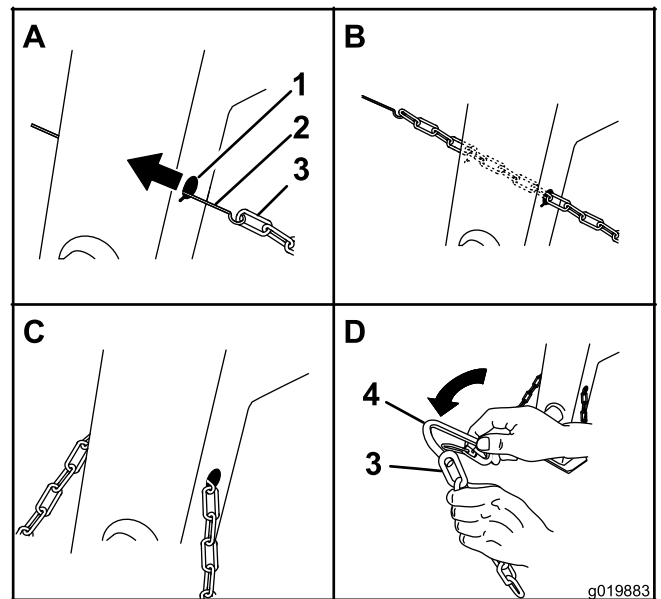

Figure 7
1. Form a hook on the end of a bendable piece of rod or stiff wire (not included), and insert it through both keyholes in the front post of the machine (Figure 7).
2. Attach the safety chain to the length of rod or wire (Figure 7).
3. Pull the rod, or wire, and the safety chain through both keyholes (Figure 7).
1. Align the connecting link to the last link in one end of the safety chain (Figure 7).
2. Insert the connecting link through the chain link until the connecting link snaps closed (Figure 7).